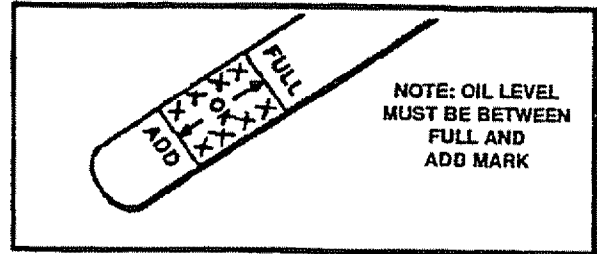

FIG. 18
Check the crankcase oil level (See Fig. 18) before starting the engine and after each five (5) hours of continuous use. Add S.A.E. 10W-30 motor oil or equivalent. Tighten fill cap/dipstick securely each time you check the oil level. S.A.E. 5W-30 motor oil may be used to make starting easier in areas where the temperature is 20° F or lower.